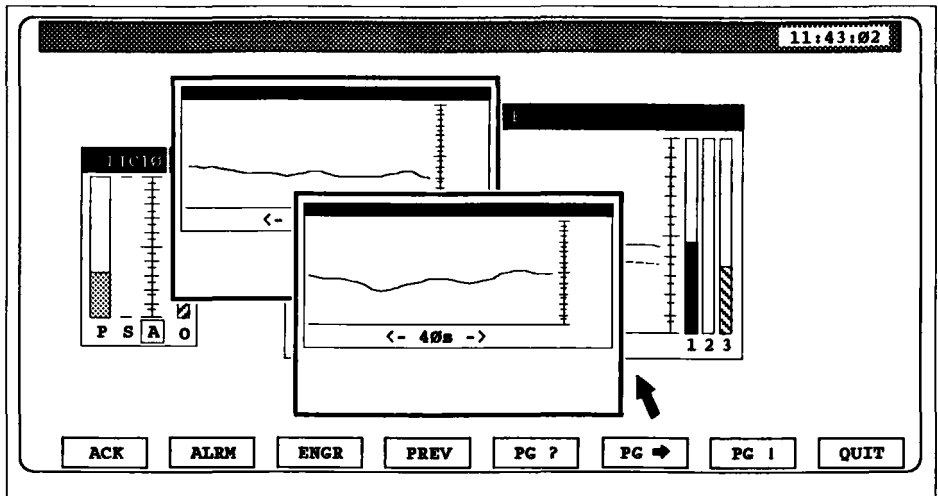

Figure 4.2 Example of Windows at Runtime
**Windows.** As well as normal pages that fill the whole screen, you can also use the **WINDOW** tool to create smaller 'mini-pages' called *windows*. Windows are similar to regular pages but they cover only part of the screen, letting you see the rest of the full page at the same time. They are especially useful for looking at detailed inset graphics without losing the overview whole-screen graphic. Any number of windows can be open simultaneously, overlaid on the main page. Figure 4.2 shows an example of windows.